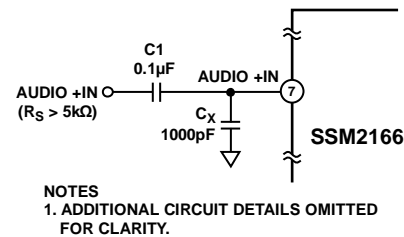

Figure 25. Circuit Configuration for Use with High Impedance Signal Sources
- When using high impedance sources ( $\geq 5 \text{ k}\Omega$ ), system gains in excess of 60 dB are not recommended. This configuration is rarely appropriate because virtually all high impedance inputs provide larger amplitude signals that do not require as much amplification. When using high impedance sources, however, it can be advantageous to shunt the source with a capacitor to ground at the input pin of the IC (Pin 7) to lower the source impedance at high frequencies, as shown in Figure 25. A capacitor with a value of 1000 pF is a good starting value and sets a low-pass corner at 31 kHz for 5 k $\Omega$  sources. In applications where the source ground is not as clean as would be desirable, a capacitor (illustrated as C7 on the evaluation board) from the VCAR input to the source ground may prove beneficial. This capacitor is used in addition to the grounded capacitor (illustrated as C2 on the evaluation board) used in the feedback around the buffer, assuming that the buffer is configured for gain.